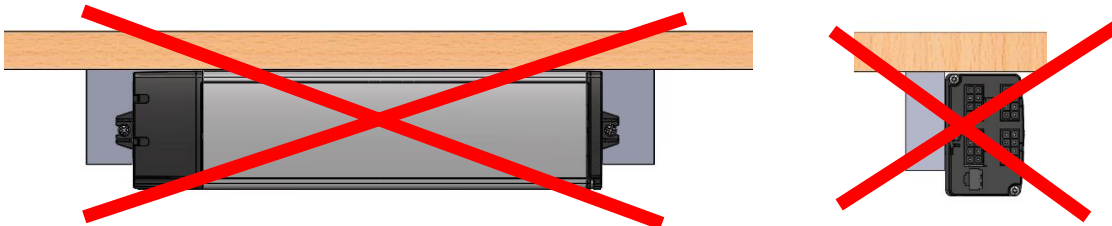

Figure 19 Positioning of controller SMS LTC384 with optional integrated tilt sensor
- ➔ Connect the plug of the lifting elements with electrical controller (Figure 19; connection No. 1-4)
- ➔ Connect the plug of the manual switch to the electrical controller using the appropriate input (Figure 19; connection No. 5)
- ➔ Connect the power cable to the appropriate input of the electrical controller Figure 19; connection No. 6)